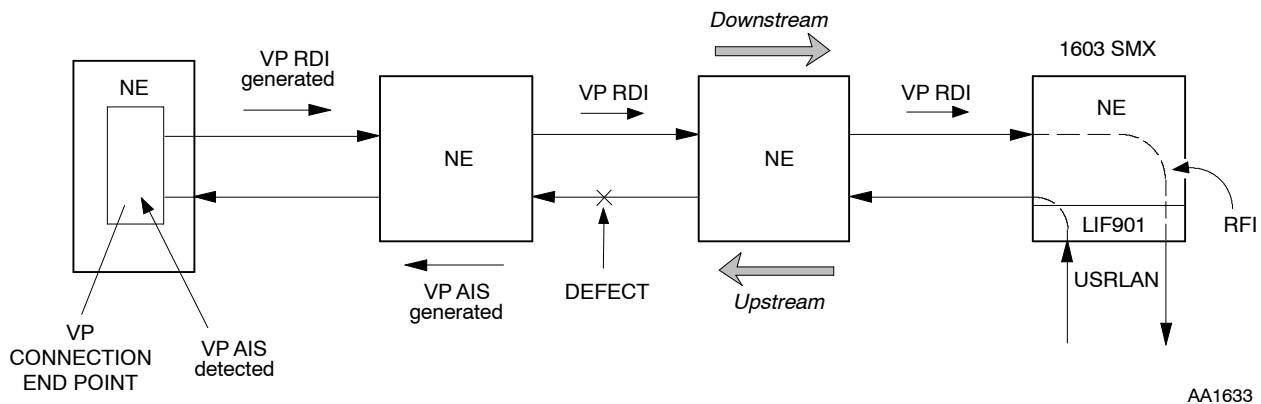

Figure 4. VPL RFI Alarm
- 62** Begin troubleshooting at the first NE that is upstream from the NE reporting the RFI alarm. (See Figure 4.)